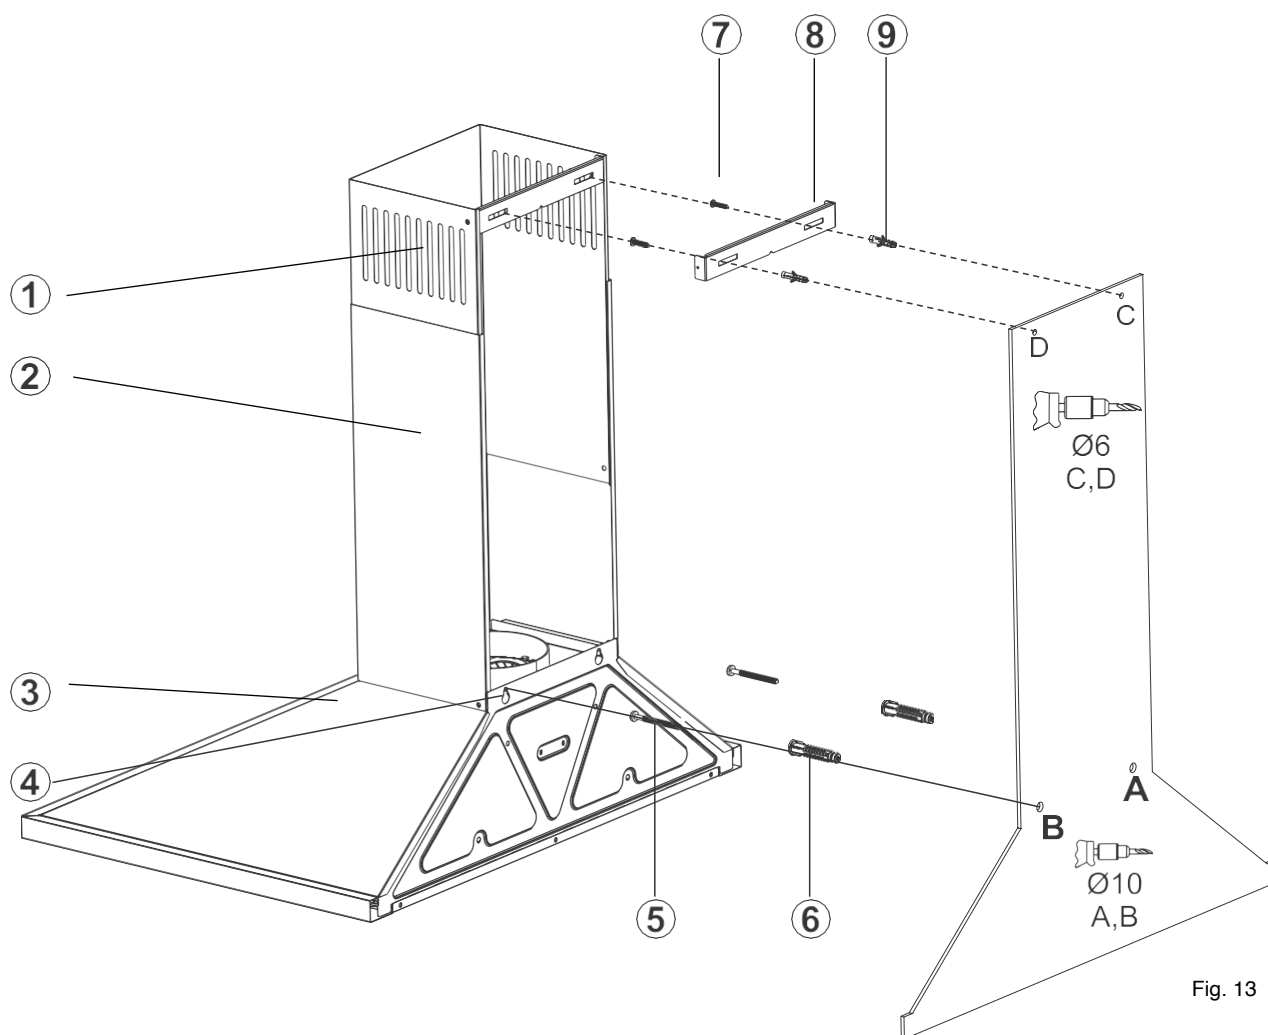

Fig. 13
1. Mark the position of the chimney bracket at the upmost point of where the chimney is to be sited. Your hood is provided with a chimney extension that slides up and down to provide a total height from the bottom of your hood to the top of between 572mm and 902mm in standard form (Fig. 13).